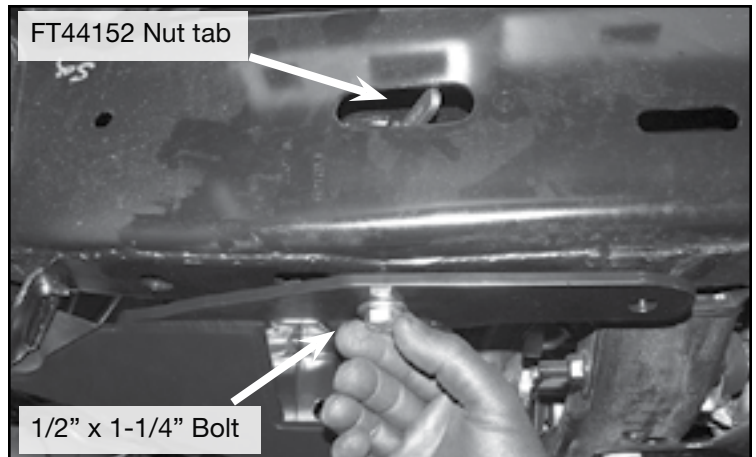

FIGURE 9 - STEP 7
7. **DRIVER SIDE** - Using the supplied 1/2" x 1-1/4" bolt, washer and FT44152 (Driver Nut Tab). Install the Nut tab through the factory slot on driver side of the frame. Leave loose. **SEE FIGURE 9**